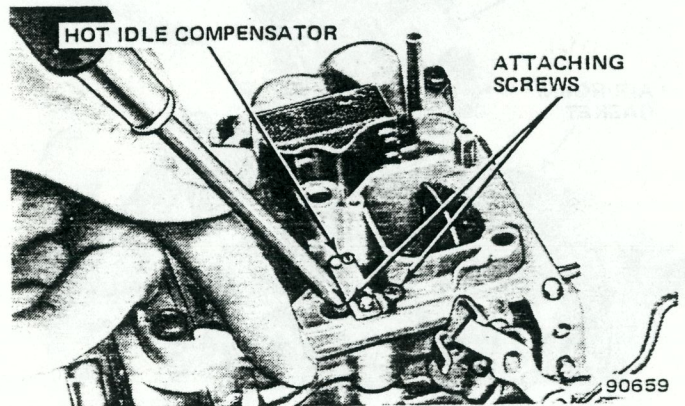

Fig. 1J-30 Model 2SE Carburetor—Idle Compensator Removal
- (6) Remove six air horn-to-bowl attaching screws and lockwashers (fig. 1J-31). Remove vent and screen assembly.